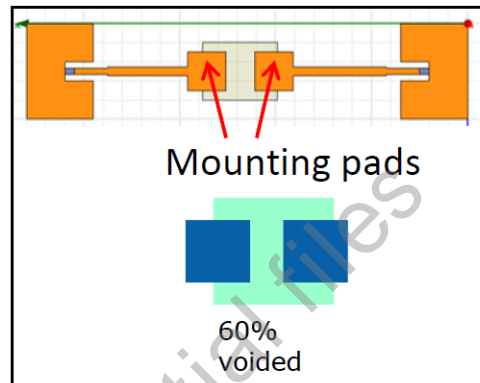

Figure 14. SFI Layout Rules for AC Coupling Capacitors
2. Partially void the reference layer (~60%) to reduce the capacitance. (see Figure 14)